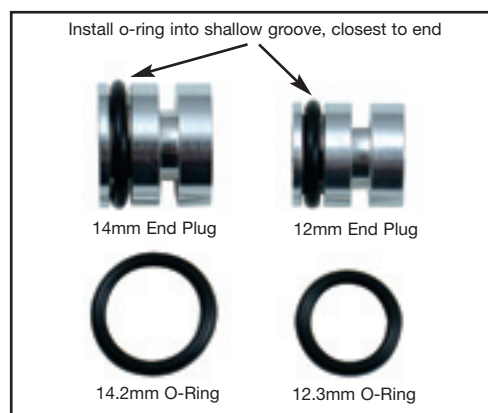

Figure 1
- 1) For both the 12mm & 14mm end plugs install the o-ring into the shallow groove, which is closer to one end of the plug (see figure 1). The deeper groove is for the retaining clip. The 12.3mm o-ring goes on the 12mm end plugs. The 14.2mm o-ring goes on the 14mm end plug.